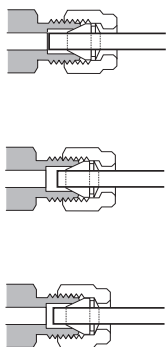

Figure 20. Completed fitting
- 10 Both correctly- and incorrectly-swaged connections are shown in **Figure 20**. Note that the end of the tubing in a correctly-swaged fitting is not crushed and does not interfere with the action of the ferrules.